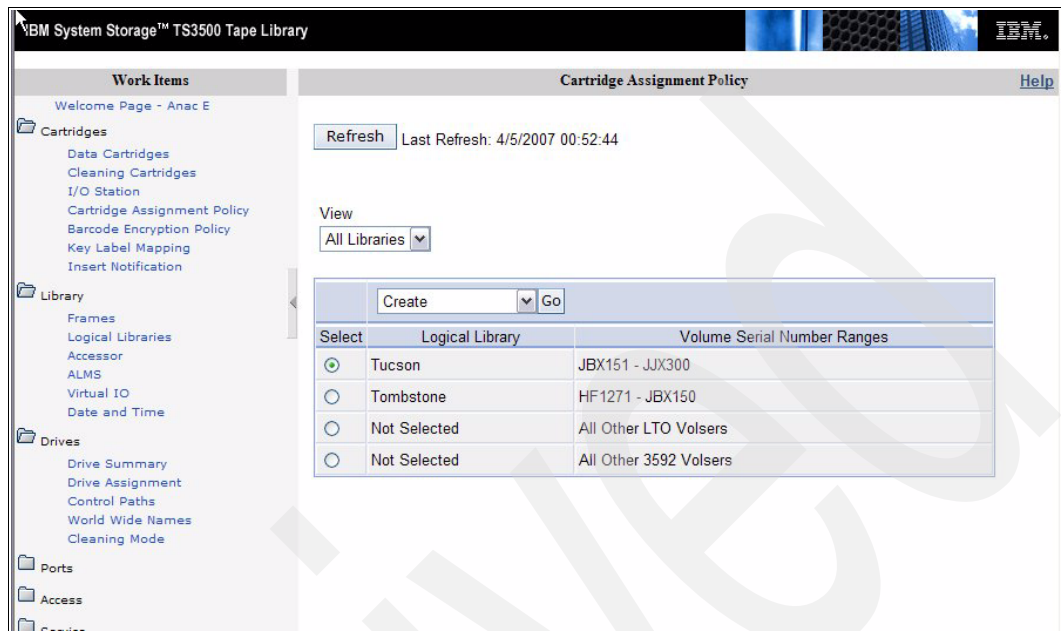

Figure 2-52 Cartridge assignment policy main panel
1. To create a cartridge assignment policy, on the left-hand side, select **Cartridges** → **Cartridge Assignment Policy**. The Cartridge Assignment Policy window appears (Figure 2-52).